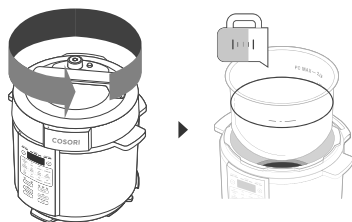

Figure 7.1
1. Twist the lid counterclockwise and lift to open. Add the milk to the inner pot. [Figure 7.1]